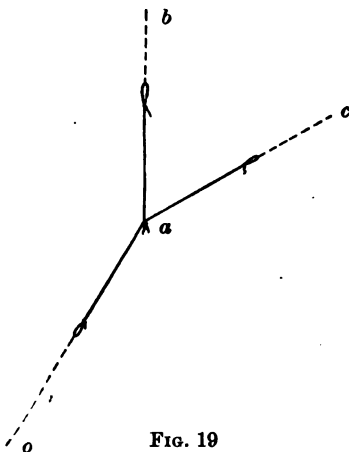

FIG. 19
94. Make a loop in the end of each of three pieces of stout string. Tie the other (free) ends together, as at  $a$ , Fig. 19. Hook spring balances into these loops (one in each) and fasten the ring of one spring balance at any point,  $o$ . Now pull upon the other two with any such intensities,  $b$  and  $c$ , that the point  $a$  shall not move as a result of the pulls upon it. At this moment slip a paper under the strings and accurately mark their directions away from  $a$ . Note also, with care, the readings of the scales at this moment, recording the number of grams upon each corresponding line.